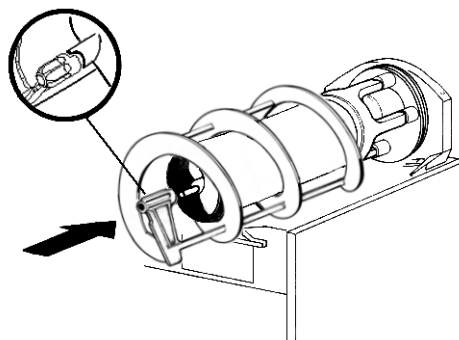

figure 16
- 5 Install the outer spiral. Slide it over the evaporator until its front notch engages with the exposed end of the auger shaft (see figure 16).